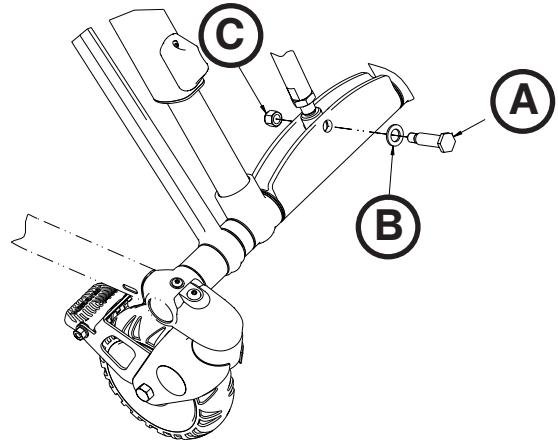

Figure 97
3. Using a 3/4" and 9/16" combination wrench, remove the rod attachment pin (A), washer (B), and Nylock hex nut (C) that secure the hydraulic cylinder to the base (Figure 97).